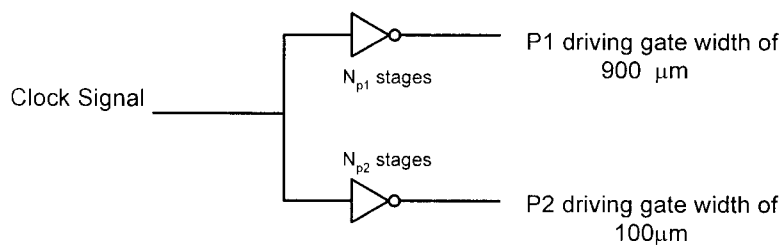

Figure 4.2
- b) In a $0.25\mu\text{m}$ CMOS process, the widths of a minimum size inverter p and n transistors are $0.5\mu\text{m}$ and $0.25\mu\text{m}$ respectively. The unit delay is given to be 30ps . The circuit contains two separate clock paths P1 and P2 as shown in *Figure 4.2*. The total gate widths seen by the two paths are $900\mu\text{m}$ and $100\mu\text{m}$ respectively.
- (i) Using the method of logical effort, or otherwise, estimate the clock skews between the paths if the inverters shown in *Figure 4.2* are minimum size.